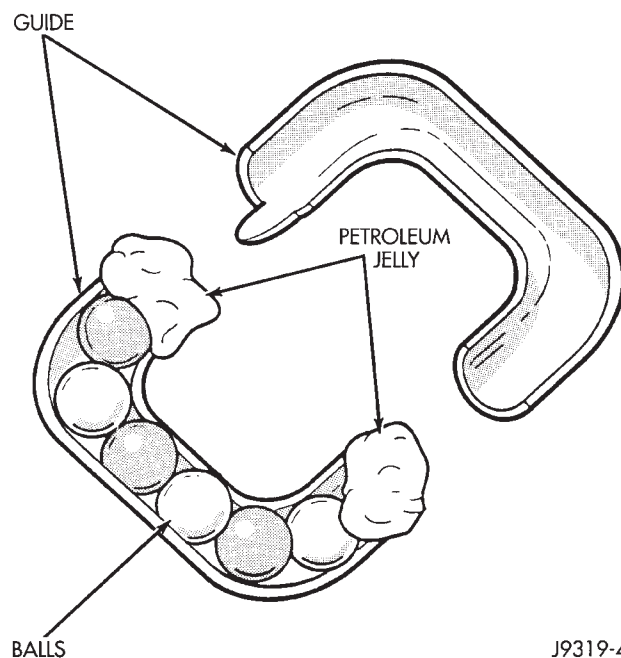

Fig. 33 Balls in the Return Guide
(3) Lubricate and install rack piston balls through return guide hole while turning wormshaft COUNTERCLOCKWISE.
(4) Install remaining balls to guide using grease or petroleum jelly at each end to hold in place (Fig. 33).